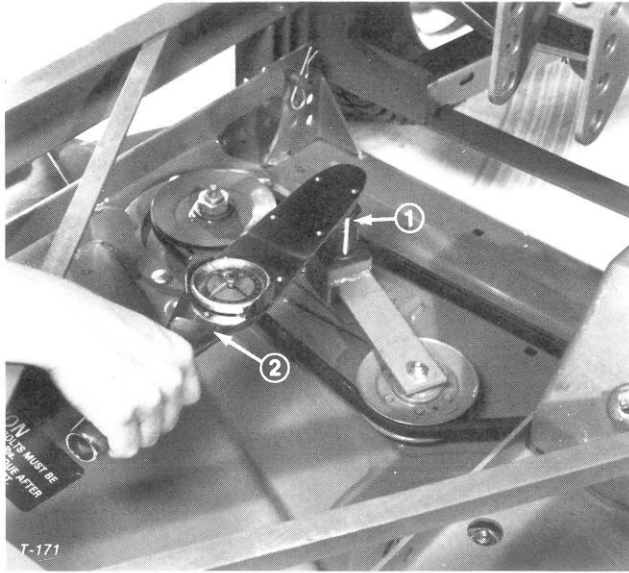

Figure 34
3. Loosen two nuts securing idler plate in place (Fig. 34). Using a socket and torque wrench, tighten the idler adjusting nut (Fig. 34) until proper torque value is achieved.
(Fig. 34). Release the idler adjusting nut and install cover with capscrews and lockwashers.